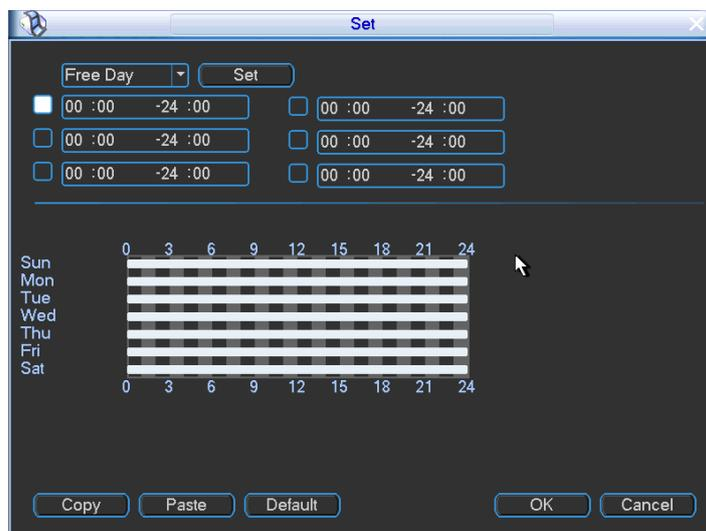
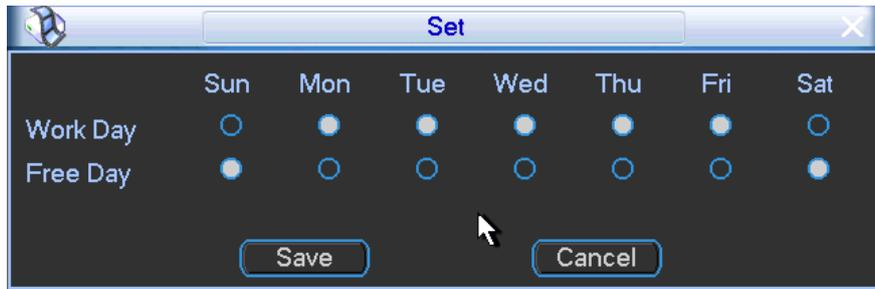

Figure 4-74
Figure 4-75
- Period: Click set button, you can see an interface is shown as in Figure 4-74. Here you can set for business day and non-business day. In Figure 4-74, click set button, you can see an interface is shown as in Figure 4-75. Here you can set your own setup for business day and non-business day.